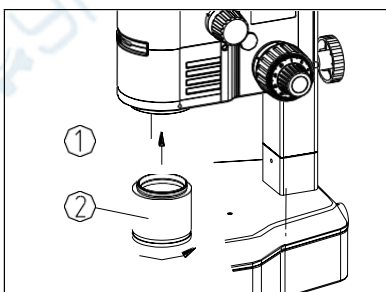

Fig. 5
1) Rotate the objective as the arrowhead direction shown in the figure, and screw the objective ② into the objective installation screw hole①. (See Fig. 5)